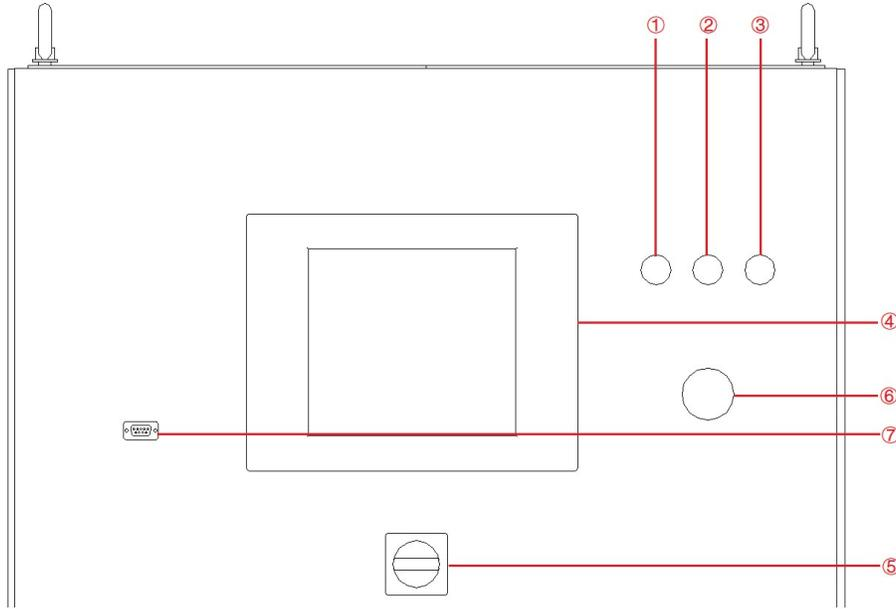
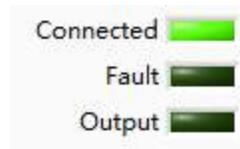

Figure 3-4 Front Panel
Figure 3-5 Indicators of Touch screen software
A few seconds after the power is initialized, the control unit and touch screen work, the power supply is standby. If the power supply communication is normal, the white light (Figure 3-4①) is always on, and the "Connect" indicator on the touch screen software interface is green (Figure 3-5).